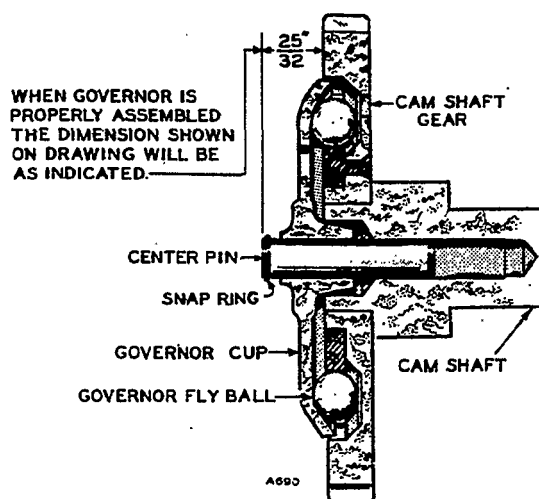

FIGURE 108. GOVERNOR CUP
3. Turn governor cup so stop pin in gear cover will fit into one of the holes in the cup surface (Figure 108). Measure distance from end of stop pin to mounting face of cover. It should be 25/32 inch (19.844 mm). If it is not, replace pin. Pin should be positioned with open end facing crankshaft seal.
To remove the governor cup, remove the snap ring from the camshaft center pin and slide the cup off. Be sure to catch the ten flyballs that will fall out when the cup is removed. Figure 108 shows the governor cup.